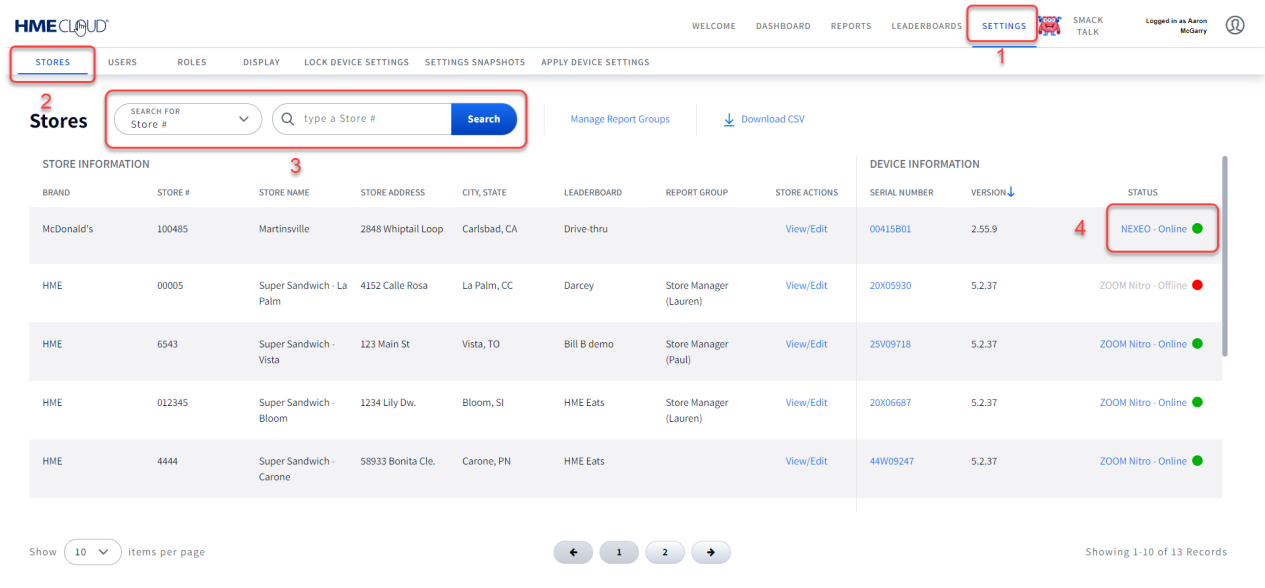
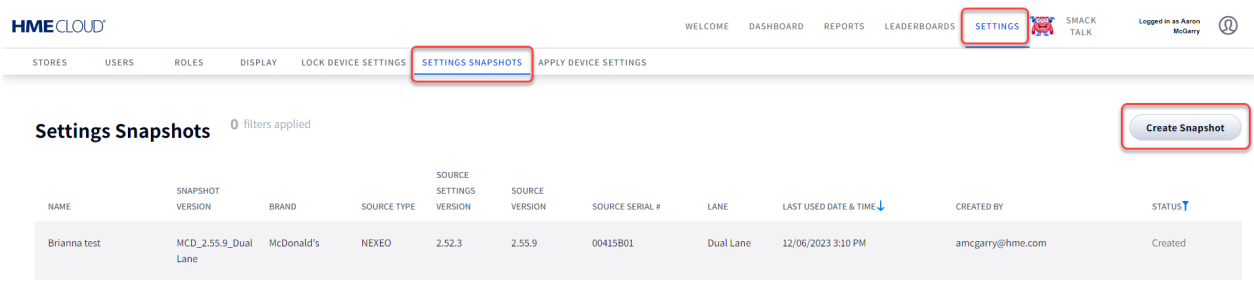

Fig. 8.4
Fig. 8.6
2. The SETTINGS page opens and defaults to the STORES tab (Fig. 8.4).
Copy or make a note of your device's serial number (found in the Serial Number column; see Figure 8.4). From the SETTINGS menu, select the SETTINGS SNAPSHOT tab. Then click the Create Snapshot button on the right of the page. Before creating a new snapshot, first create a snapshot of your current configuration and give it a unique identifier in the NAME field. For example, in the NAME column of Figure 8.6, one snapshot named "Brianna test" already exists.